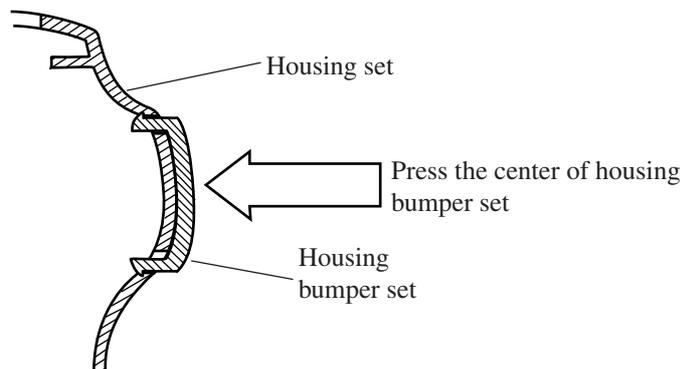

Fig.6
- > (1) Hook the convex of housing bumper set to the punched hole near the hole for brush holder.
- > (2) Hook the convex of lower part of housing bumper set to the punched hole.
- > (3) Hook the convex of upper part of housing bumper set to the punched hole.
- (4) Press the center of housing bumper set to assemble it to housing set without gap as illustrated in Fig.6.